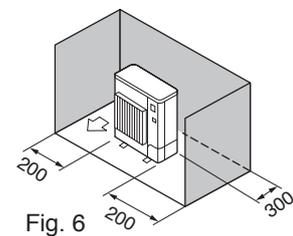

Fig. 6
- (3) Obstacles at rear and sides only (Fig. 6)